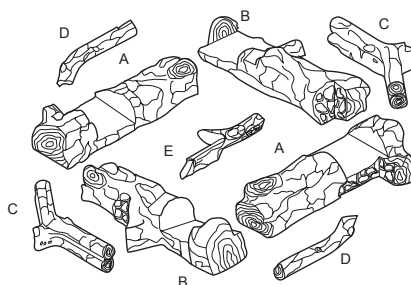

Figure 43 - Log Set (9 Pieces)
4. Figure 43 shows the log set. Logs "A" have a knot at the end of the log. Logs "B" have a knot at the middle of the log. Twigs "C" have the shape of a "Y". Twigs "D" have the shape of bent twigs. Twig "E" is a straight twig which is placed across top of logs "B".